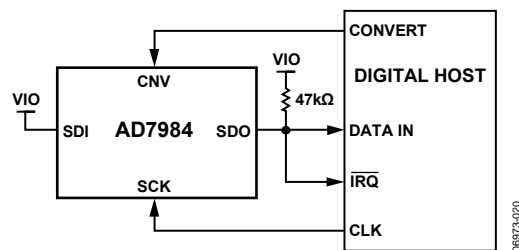
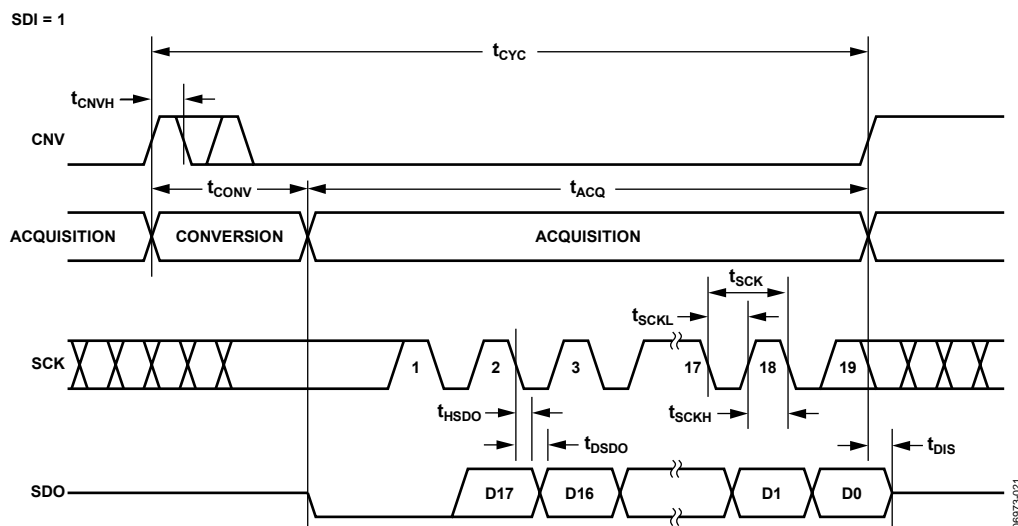
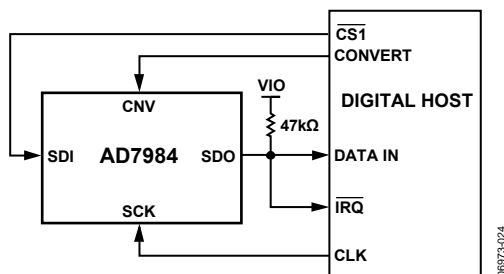
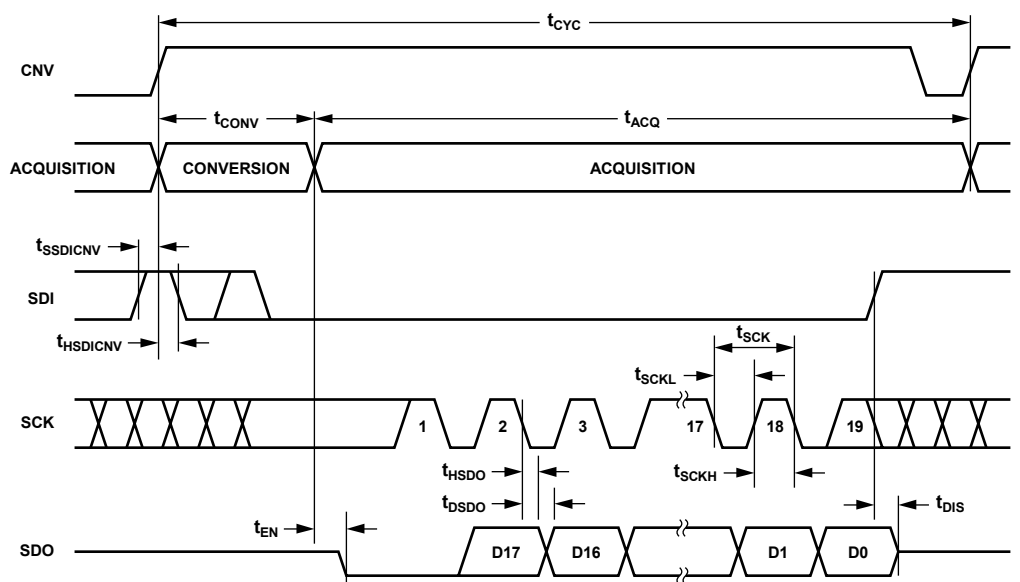

Figure 30.  $\overline{\text{CS}}$  Mode, 3-Wire with Busy Indicator Connection Diagram (SDI High)
Figure 31.  $\overline{\text{CS}}$  Mode, 3-Wire with Busy Indicator Serial Interface Timing (SDI High)
Figure 34.  $\overline{\text{CS}}$  Mode, 4-Wire with Busy Indicator Connection Diagram
Figure 35.  $\overline{\text{CS}}$  Mode, 4-Wire with Busy Indicator Serial Interface Timing
- In  $\overline{\text{CS}}$  mode if CNV or SDI is low when the ADC conversion ends (see Figure 31 and Figure 35).
The connection diagram is shown in Figure 30, and the corresponding timing is given in Figure 31.
The connection diagram is shown in Figure 34, and the corresponding timing is given in Figure 35.